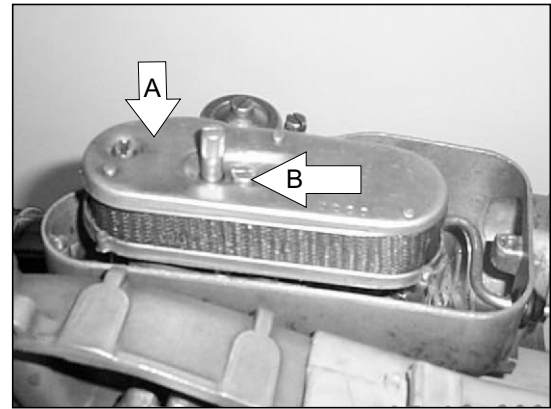

Fig. 65
- (a) Take out air cleaner 'A' by unscrewing two screws 'B'. (fig.65).